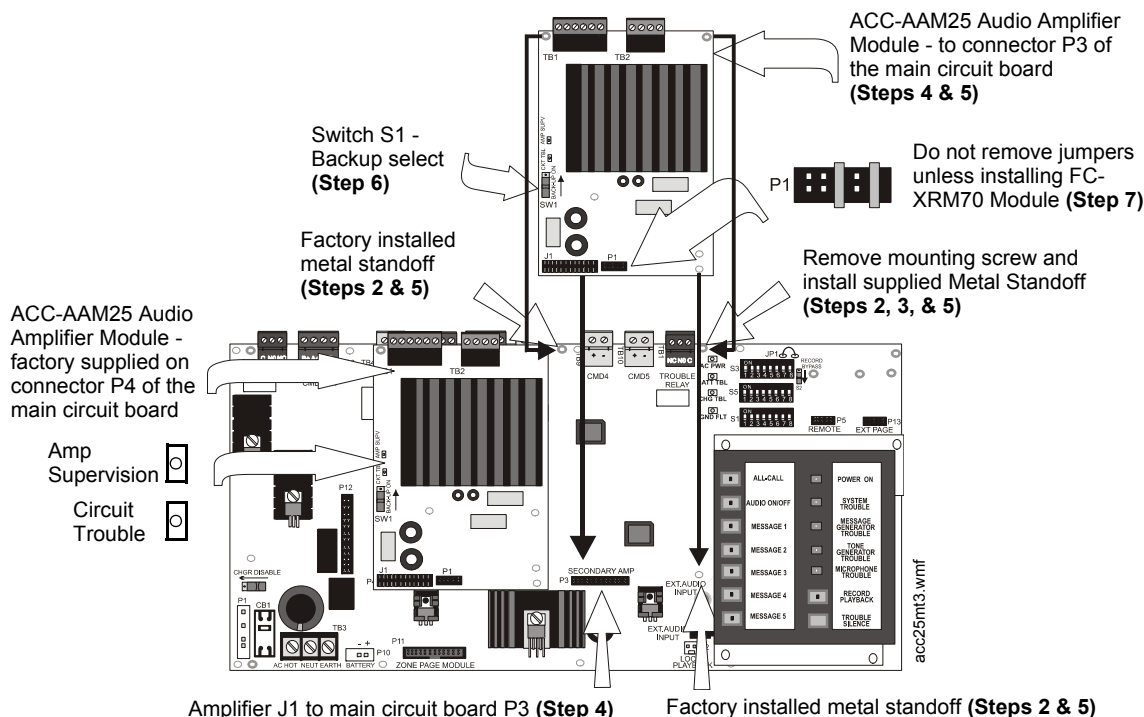

Figure 3.17 Installation of Optional Audio Amplifier
1. Carefully remove the ACC-AAM25 Audio Amplifier Module(s) from the main circuit board. Figure 3.17 on page 58 for installation procedures and reverse the steps.
3. Reinstall the Audio Amplifier Module(s) following the procedure accompanying Figure 3.17.